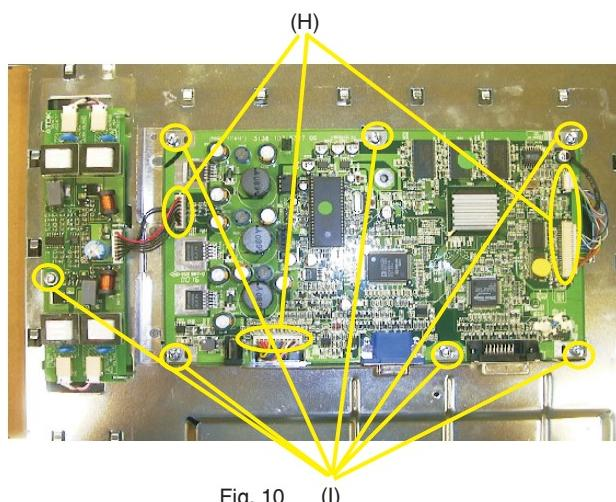

Fig. 10
Step 1 : Disconnect three connectors (H). See Fig. 10
Step 2 : Remove seven screws (I). See Fig. 10